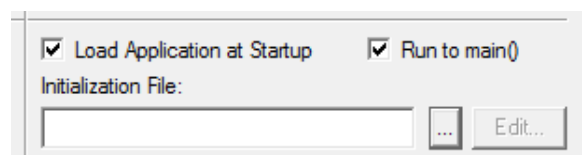

Figure 28. Load Application at Startup Settings
10. From the **Options for Target 'Demo'** dialog, select the **Load Application at Startup** checkbox, as shown in Figure 28, so that the IDE will download the code upon connection. There is no need to select or enter an initialization file.